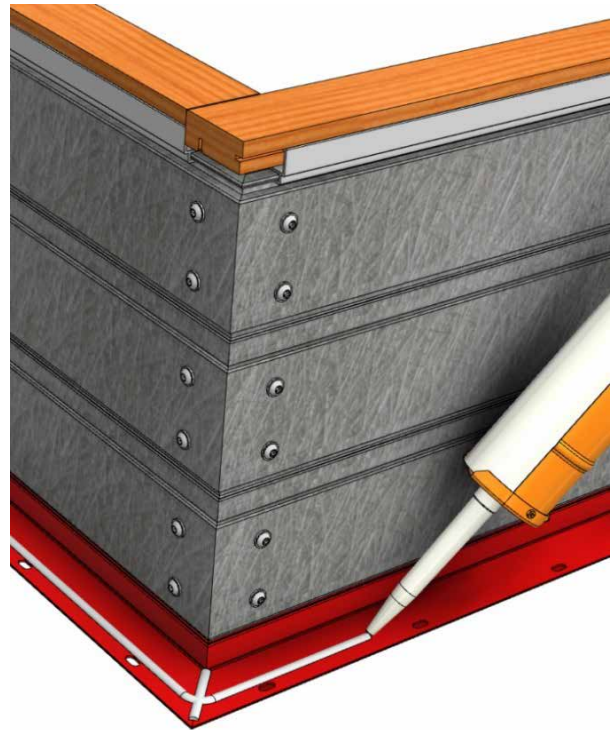

Fig 23
- Place a continuous bead of silicone sealant on the back of the nailing flange as shown in figure 23.
- Make sure to place a bead across the joint of the Jamb & Head cladding as shown. (Fig 23)